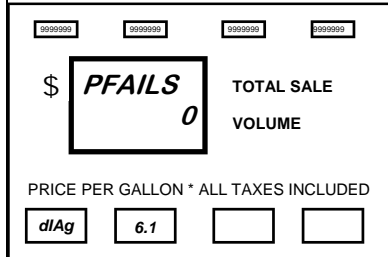

Figure D-11
6.1 - Pfails. The display shown in Figure D-11 appears. The Price display shows the dispenser is in Diagnostics Level 6.1.